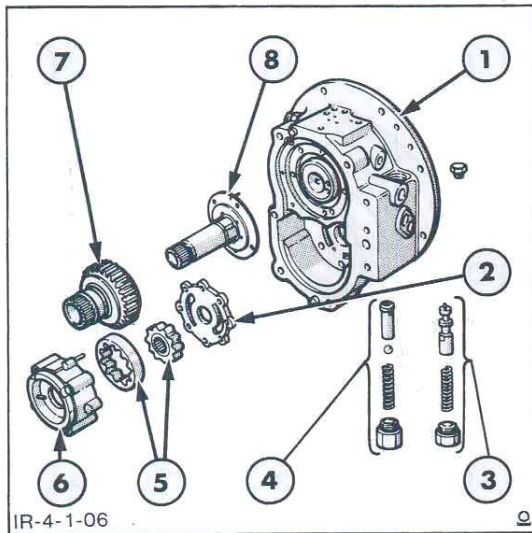

Figure 79
4. Remove the hydraulic pump retaining bolts and lift the pump assembly from the distributor housing, Figure 79.
5. Remove the by-pass valve plug and extract the shim, spring ball and valve seat, Figure 79.
3. Assemble the transmission hydraulic pump components as shown in Figure 79. Install the pump onto the distributor housing and secure with the retaining bolts. Tighten the bolts to the specified torque, see "Specifications" – Chapter 3.